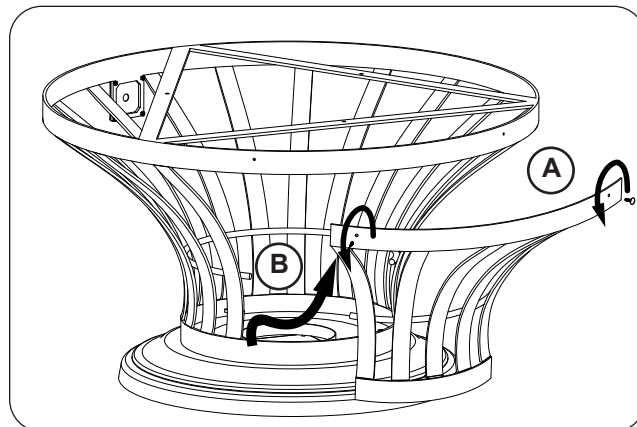

Fig. 29-2 Remove door
3. Remove the storage door by first turning the two thumb screws counter-clockwise, then carefully pulling the door up and outward (see Fig. 29-2). Store in a safe location.